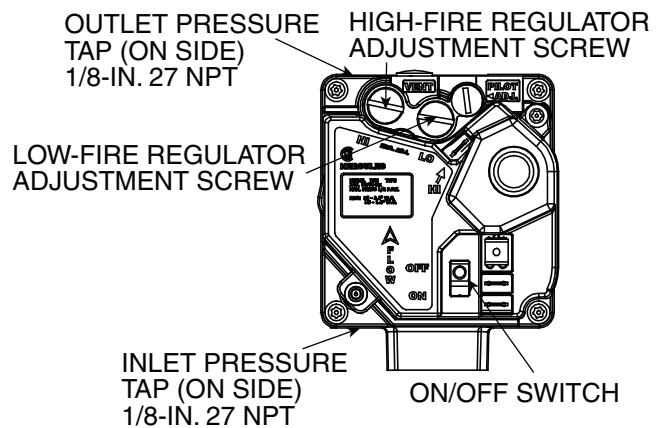

Fig. 55 — Gas Valve (Part Number EF33CW271)
6. Remove screw cap covering regulator adjustment screw (See Fig. 55).